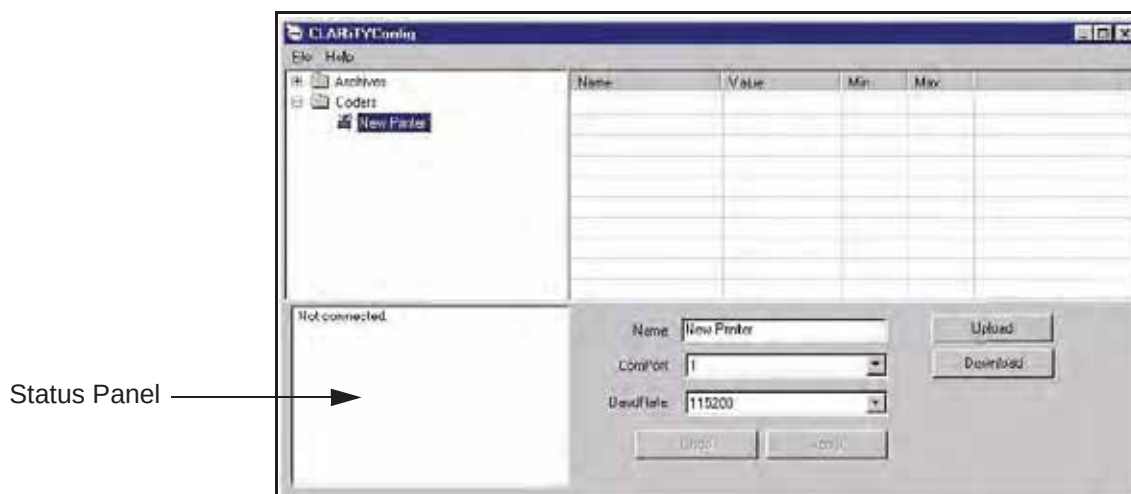

Figure 3-19: CLARiTY Configuration Manager
- 2 Run the CLARiTY Configuration Manager on the PC (Figure 3-19).
If the status displays "Not connected", as shown in Figure 3-19, disable or quit the other applications running on the PC that are using the serial port. Check that the baud rate settings on the Configuration Manager matches with the printer's baud rate.